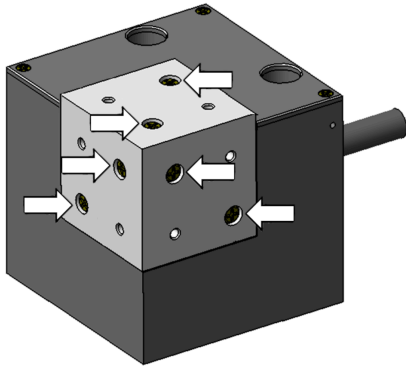

Fig. 10: P-616.3C. Position of the 6 fastening screws for the XYZ mounting platform
1. Disassemble the XYZ platform from the P-616 by removing the screws shown in Fig. 10 \(p. 25\).